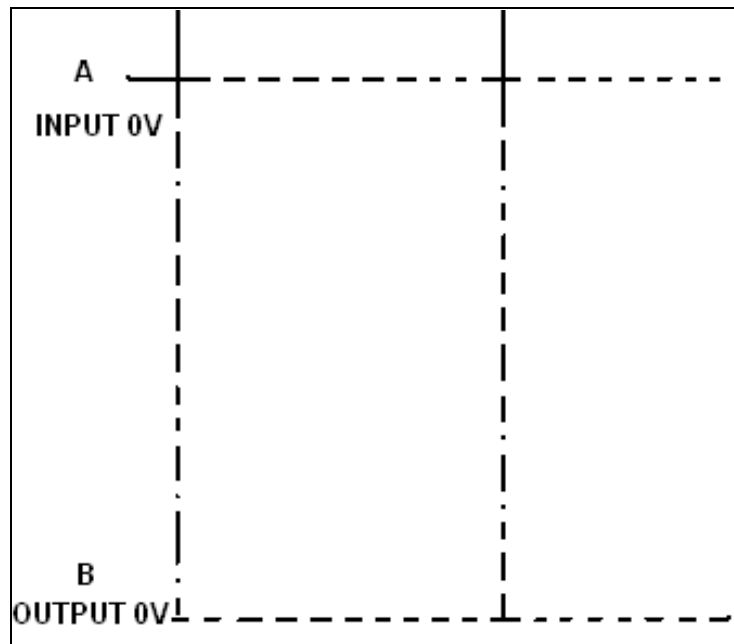

Fig. 1-4 Plot of Waveforms Observed in steps 21 and 22
22. View the waveform at pin 2 of the potentiometer. Draw two cycles of the waveform in Fig. 1-4.